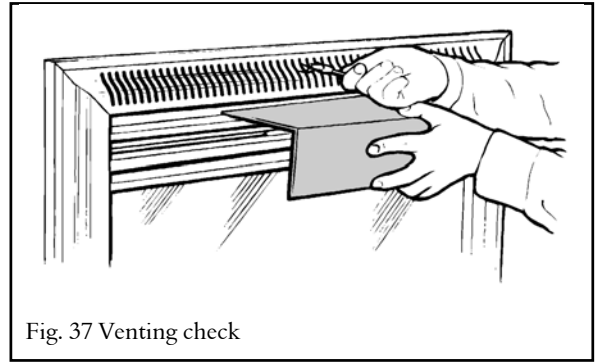

Fig. 37 Venting check
- 7.11.4 Light a long match. Hold the piece of cardboard immediately below the slots at top of the front unit and near the center. This will prevent the convection air from interfering with the test. Insert the match into one of the slots near the center (Fig. 37). The installation is satisfactory if the smoke is drawn into the appliance.